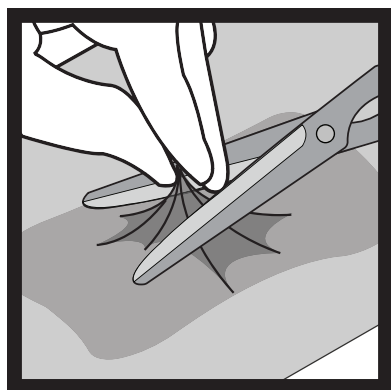

Figure 10
10. Cut a 1 cm diameter hole in the top of the drape at a convenient location over the foam dressing by pinching and lifting the drape (**Figure 10**).